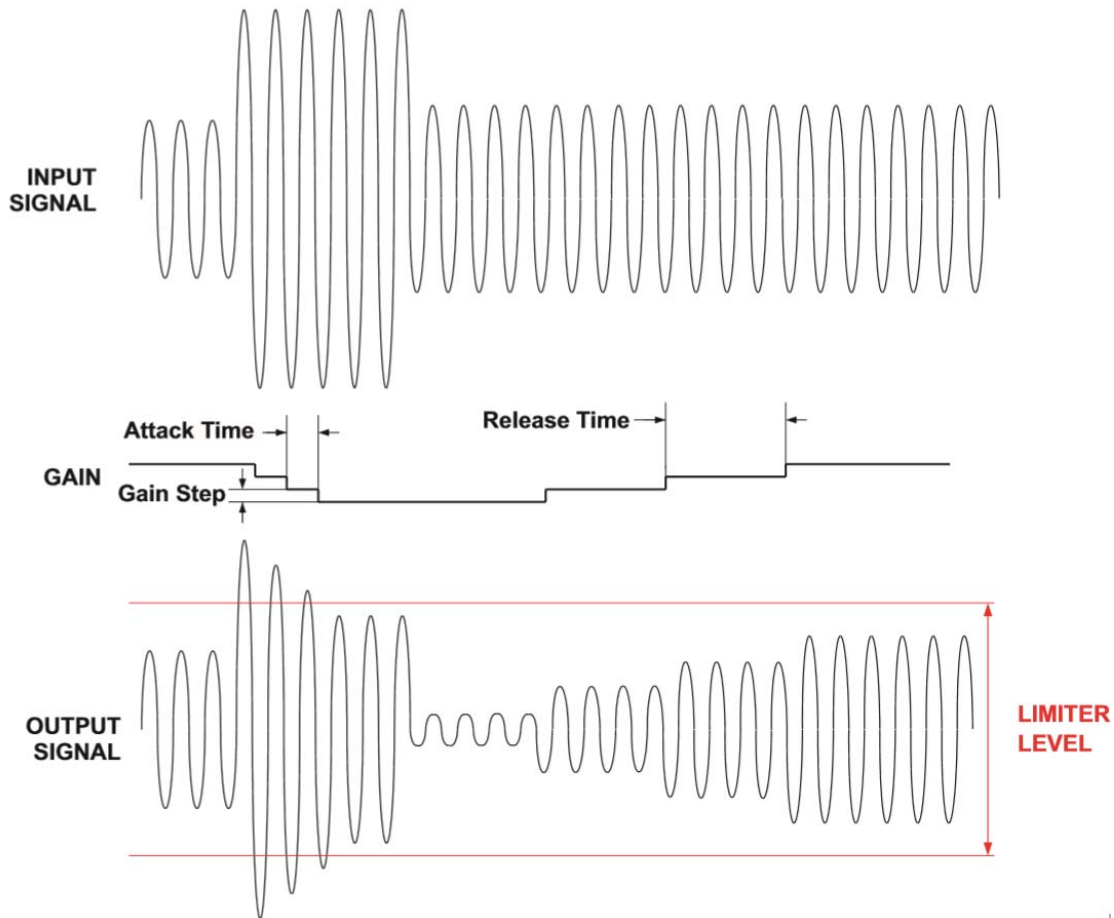

Fig. 3 AGC Limiter Function
0.375dB per step (or 0.75dB per step, which can be modified in register address 0x0A). HT862 increases the gain by the rate release time (default value 150ms/dB, can be modified in register address 0x0C), 0.375 per step(or 0.75dB per step, which can be modified in register address 0x0A), once the output audio is below the limiter level. Figure 3 shows this relationship.